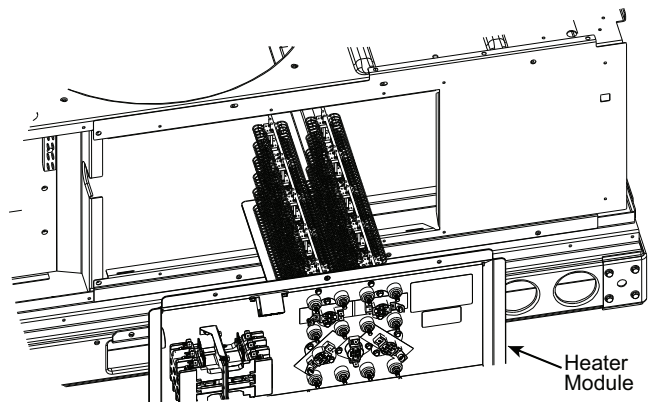

Fig. 11 — Typical Electric Heat Installation
3. Install the heater module in the heater support bracket opening(s). (See Fig. 11.) Fasten heater module to heater mounting bracket with the 4 screws saved from Step 1.